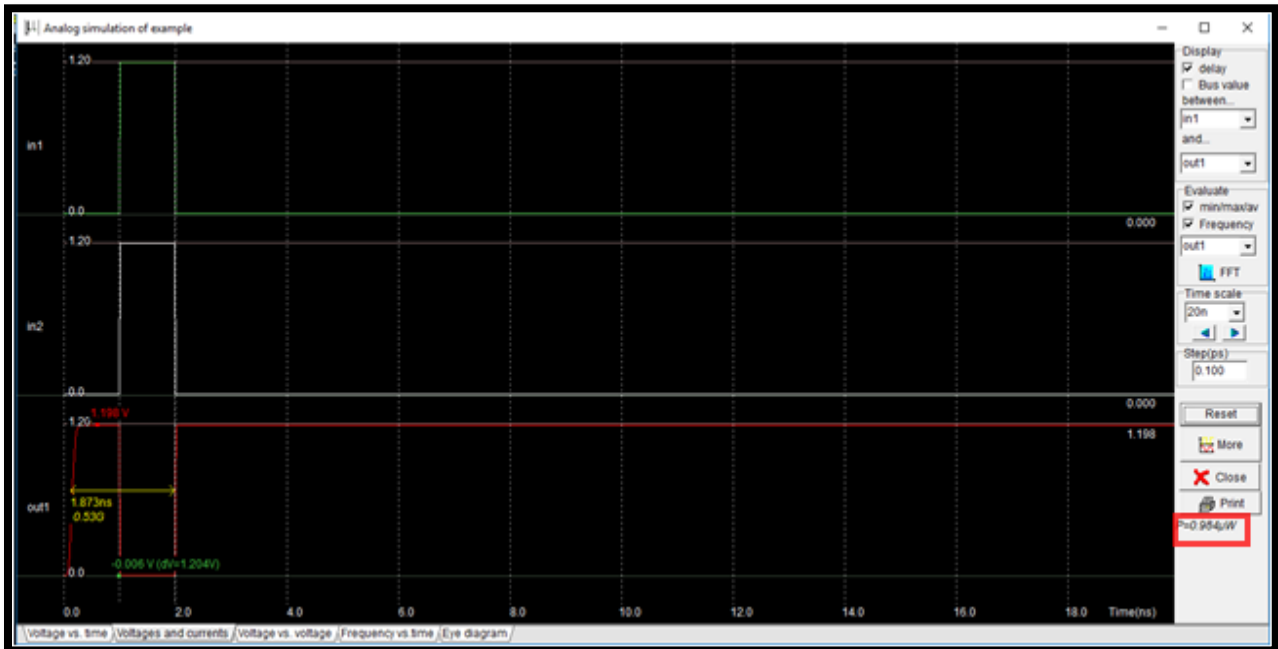

Figure 34: simulation window
- The next step is to build the NMOS transistors. Click on the transistor symbol in the palette. Set the W, L of the transistor. See figure 34: